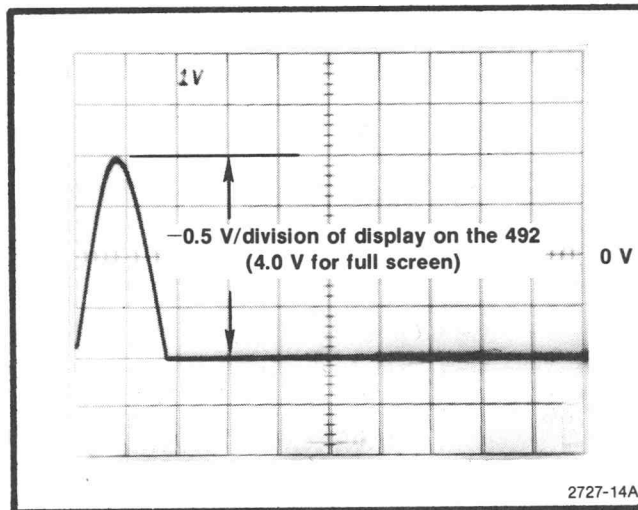

Fig. 3-21. Display of a full screen signal at the Vertical Output Connector.
e. Check the vertical signal output level on the test oscilloscope. Output level should equal plus and minus 2 volts for a total of 4 volts ± 0.2 volt (see Fig. 3-21).